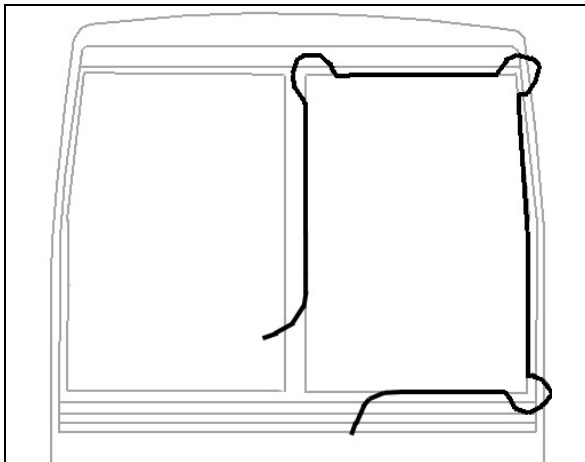

FIGURE 15: WINDSHIELD INSTALLATION USING ROPE
- Insert rope into rubber extrusion leaving enough length at each corner to make a loop. Spray soapy water onto rope and rubber extrusion (Figure 15).